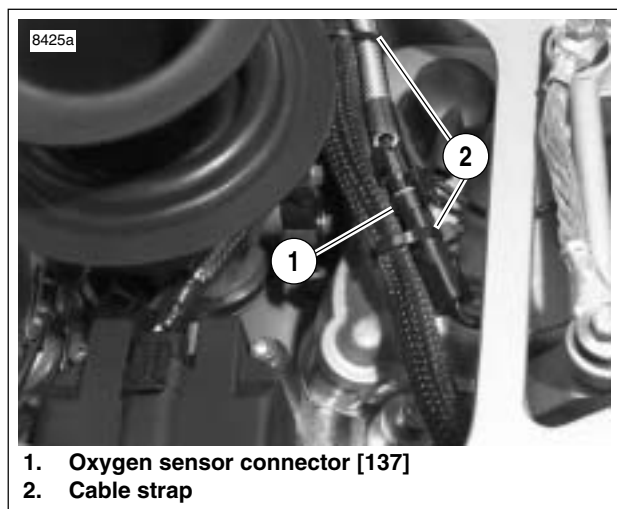

Figure 4-75. Oxygen Sensor Connector [137]
6. See Figure 4-75. Remove cable straps (2). Unplug 1-place connector [137] (1).
5. See Figure 4-75. Connect 1-place connector [137] (1) to wiring harness.
6. Install cable straps (2).